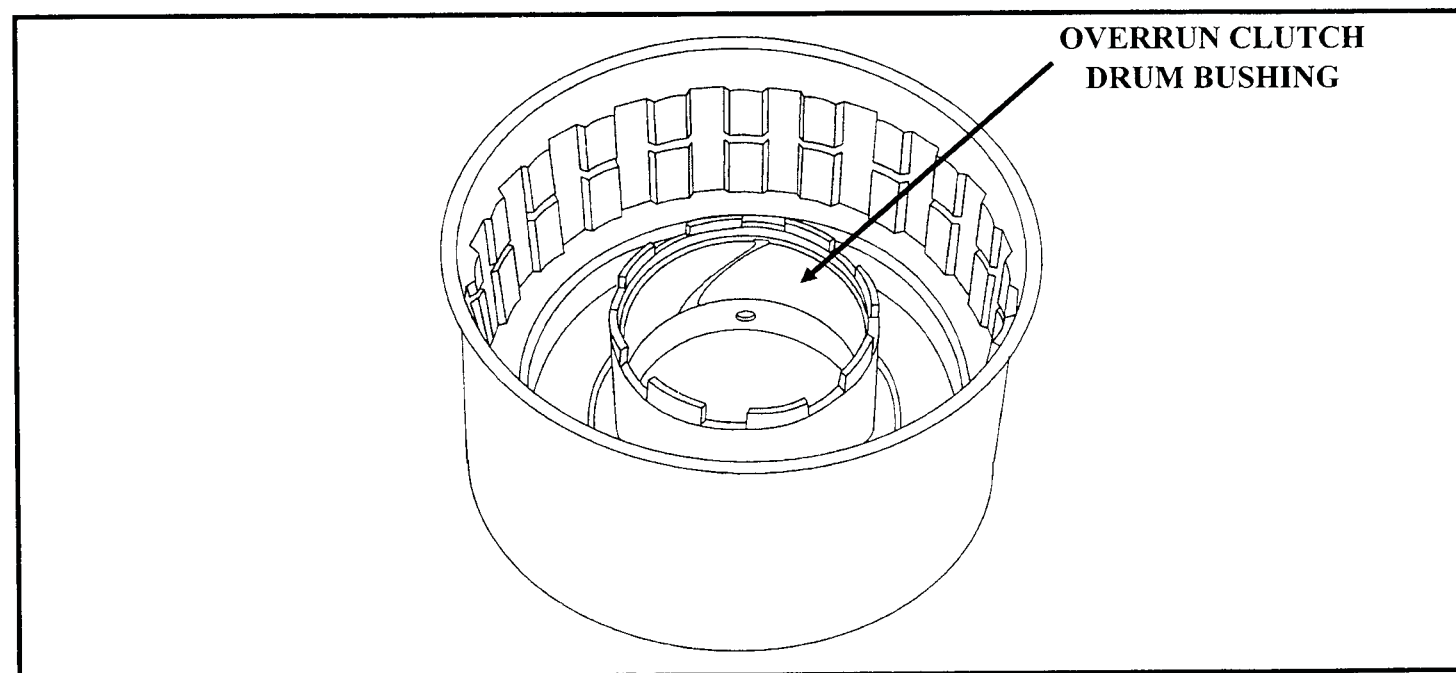

Figure 18
- 5. Overrun clutch housing bushing for wear and/or damage (See Figure 18).